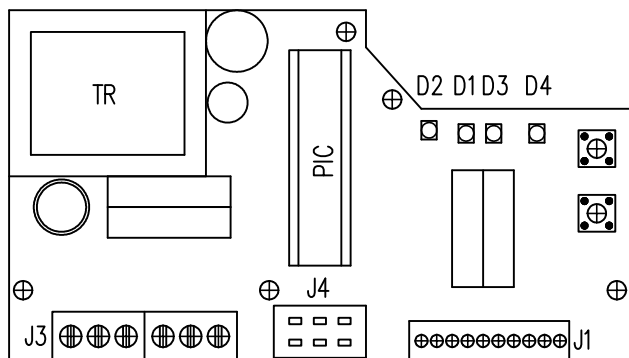

Fig. 9
3.5 Adjustment of position controller (Fig. 9)
Laying of adjusters and signalling elements on the board of the REGADA controller is shown on Fig. 9: